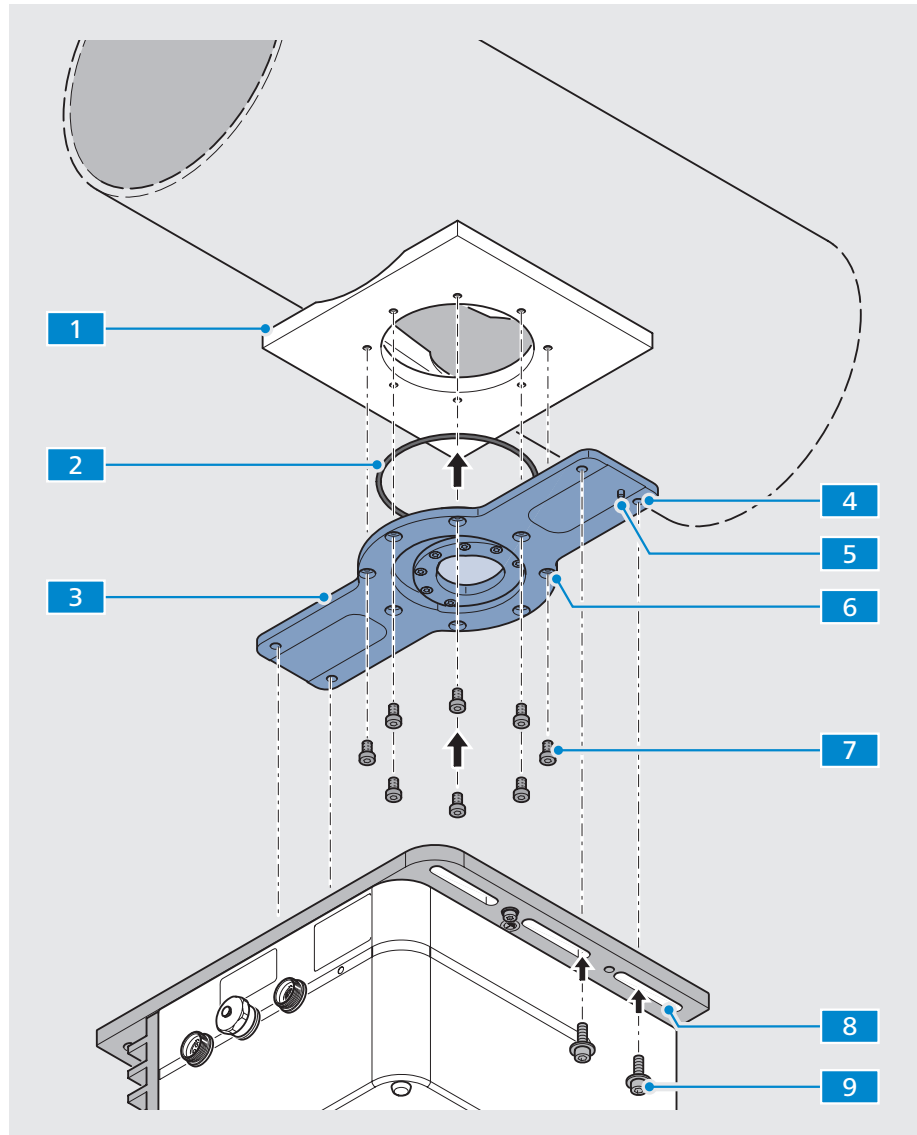

Fig. 10 Mounting the **Corona extreme** with the power flange
- Prepared customer mechanical interface (see figure 10)